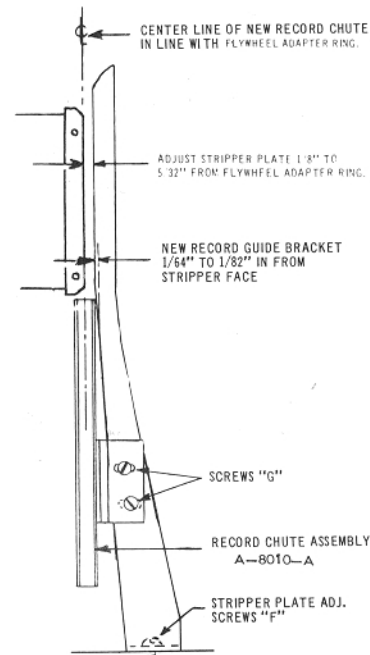

FIGURE 7. RECORD CHUTE
- B. Loosen stripper plate adjusting screws "F" (Fig. 7) and move stripper plate face in to 1/8" to 5/32" from the fly-wheel face. Then re-tighten the screws "F". (Fig. 7).